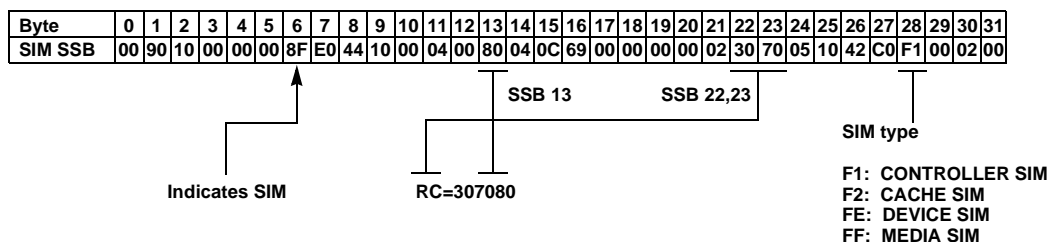

Figure 5 Typical SIM
Figure 5 shows a typical 32-byte SIM from the disk array. SIMs are displayed by reference code (RC) and severity. The six-digit RC, which is composed of bytes 22, 23, and 13, identifies the possible error and determines the severity. The SIM type, located in byte 28, indicates the component which experienced the error.